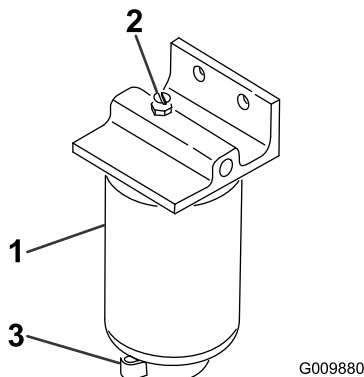

Figure 55
2. Loosen the drain valve on the bottom of the filter canister (Figure 55).
1. Clean the area where the filter canister mounts (Figure 55).